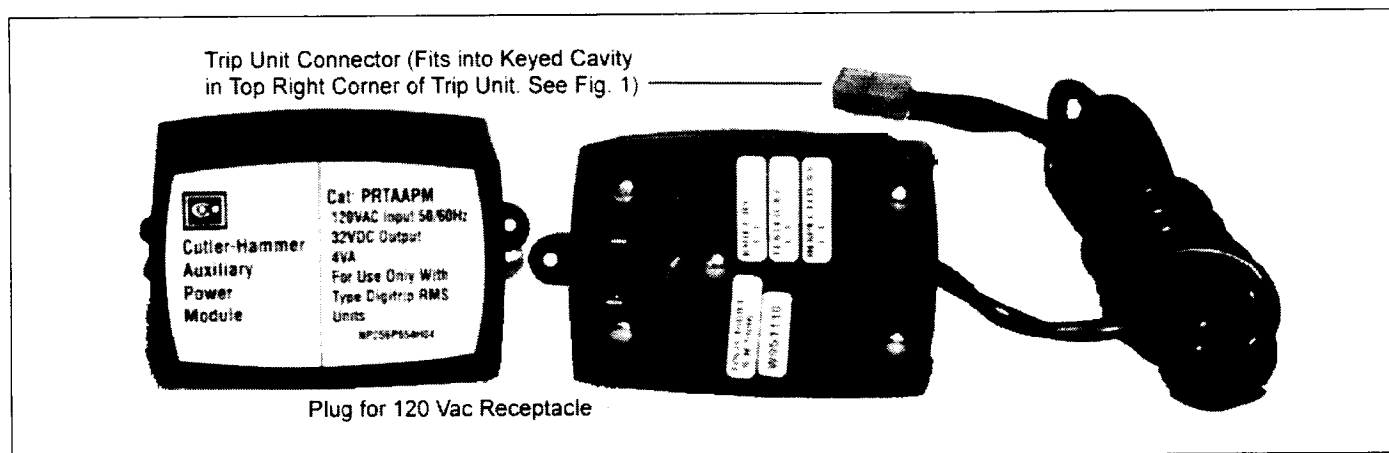

Fig. 7 Auxiliary Power Module
The Auxiliary Power Module or APM (Cat. No. PRTAAPM), illustrated in Fig. 7, is an encapsulated power supply that requires a 120 VAC input at either 50 or 60 Hz. It provides an output of 32 VDC (nominal 40 VDC open circuit) which is used during testing of the Digitrip RMS 610 Trip Unit, whenever 120 VAC control power is not available to the Power/Relay Module. (See Section 1.4.) When a drawout circuit breaker is equipped with a Digitrip RMS 610 Trip Unit, it can be conveniently set and tested while the circuit breaker is either out of its cell or in its cell in the "Test", "Disconnect" or "Withdrawn" positions by using the Auxiliary Power Module.
**Note: For Testing Purposes Only: When using an external single phase current source to test low level ground fault current settings, it is advisable to use the Auxiliary Power Module (APM) (See Section 1.5 and Fig. 7).**